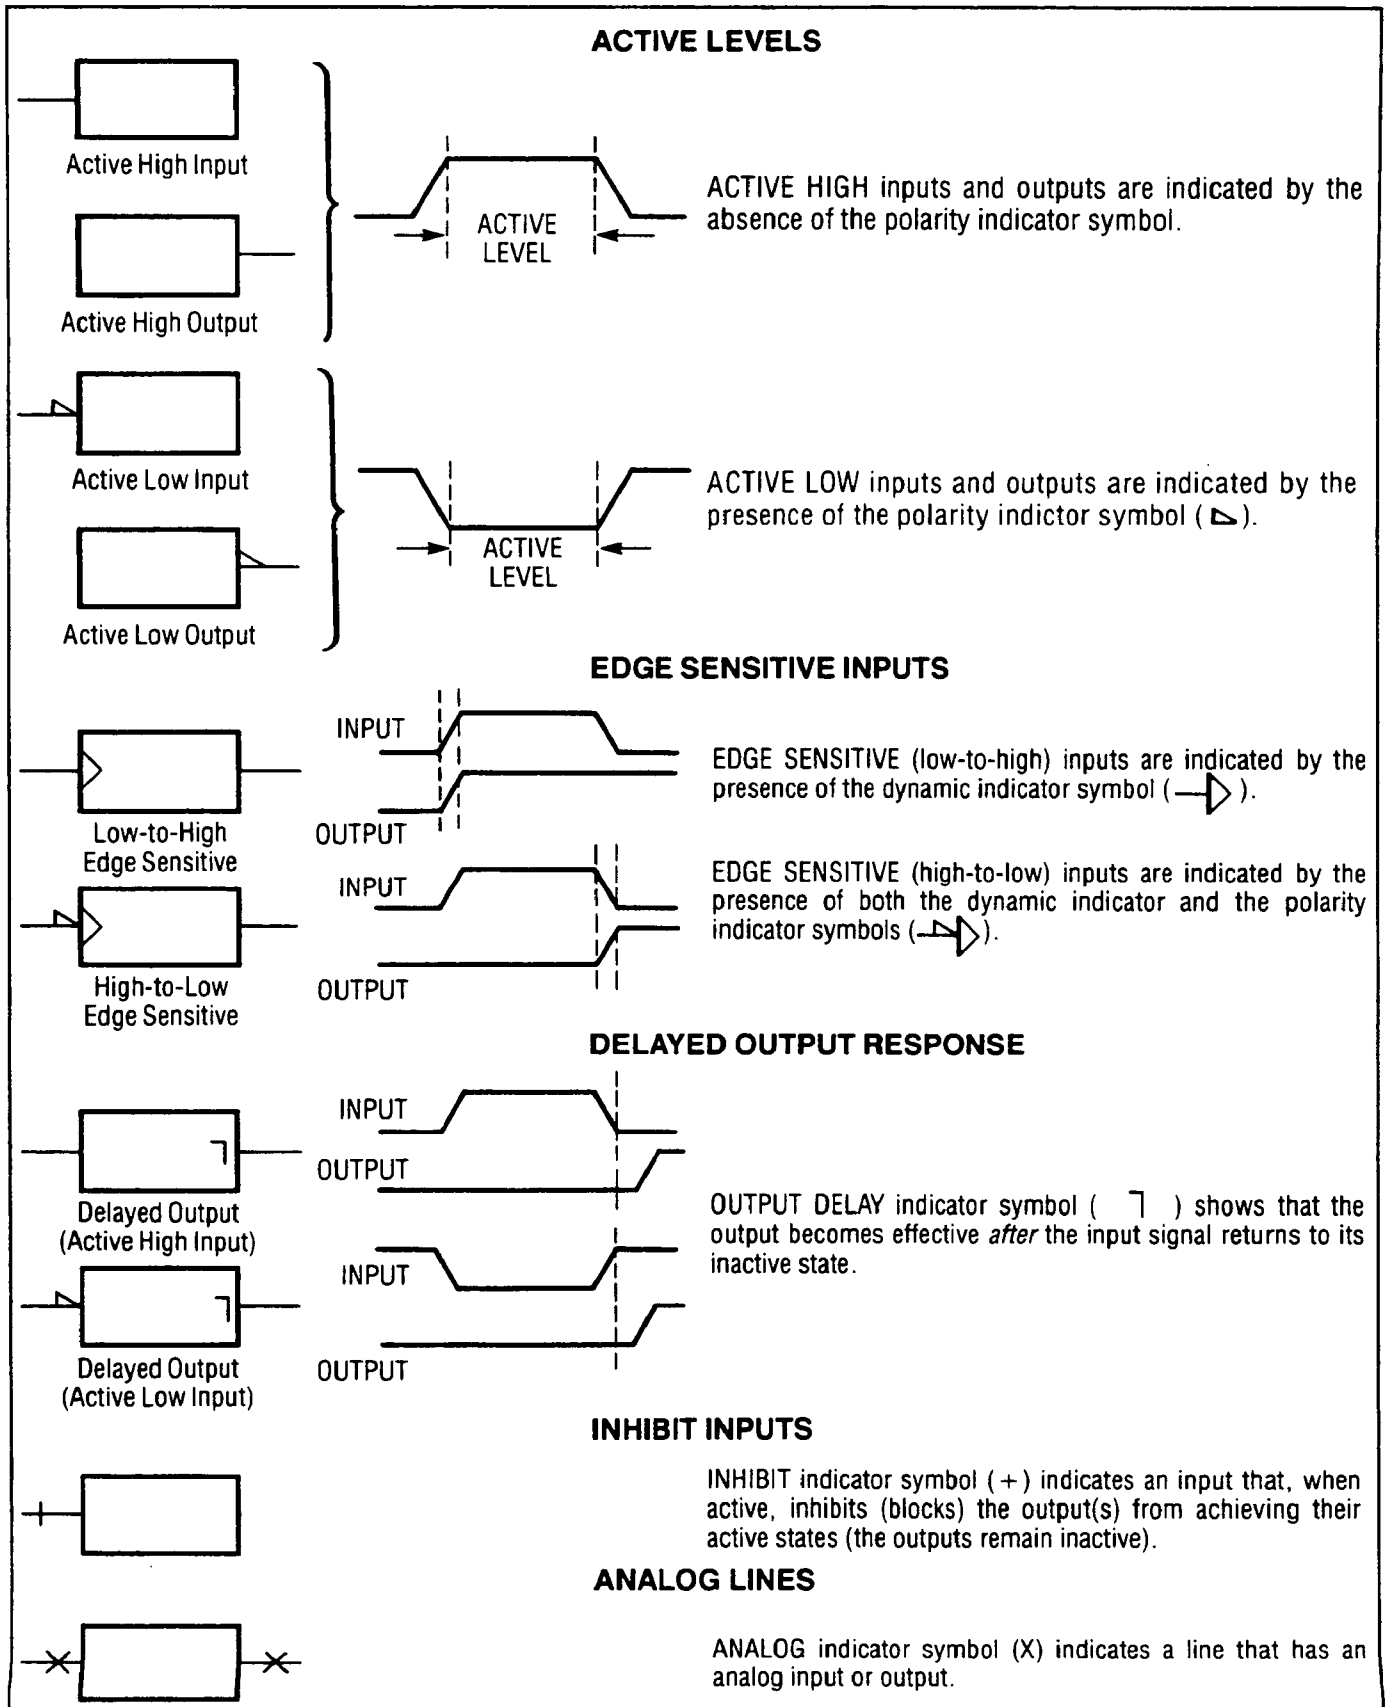

Figure 8-7. Indicator Symbols
**Indicator Symbols.** Indicator symbols identify the active state of a device's input or output, as shown in Figure 8-7.